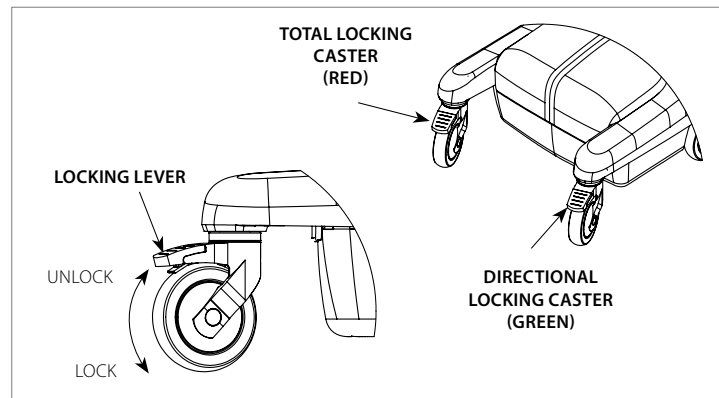

Figure 4
1. Lock the **CASTERS** by step on the **LOCKING LEVER** (on each **CASTER**) such that it clicks in the down position (**Figure 4**).